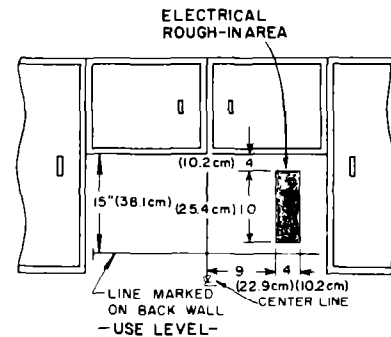
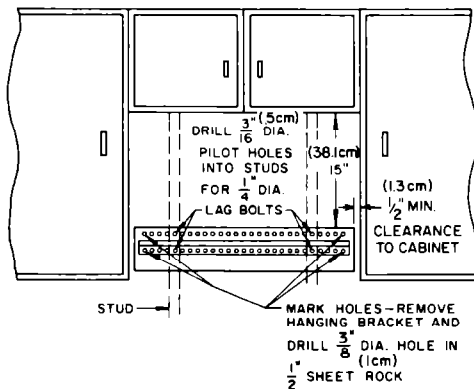

Figure 5
Figure 6
1. Select the area for installation, making sure you have an electrical supply available. See the shaded area (Figure 5). This is the area the electrical supply must enter.
3. Mark a line on the back wall 15" down from the upper cabinets centered between the side cabinets or the allotted space. Use a level. (Figure 5).
**CAUTION:** If two studs are not located on the line drawn (Figure 5), DO NOT attempt to install the hood.
4. Line the top of the hanging bracket up with the line drawn on the wall in Figure 5. Move the bracket to the left or right within the allotted 30" space until the center line of the 2 studs line up with 4 holes in the hanging bracket. Neither edge of the bracket should be closer than 1/2" to the side cabinets or the end of the 30" allotted space. (See Figure 6).
12 Rough wire the electrical supply to the area shown in Figure 5.